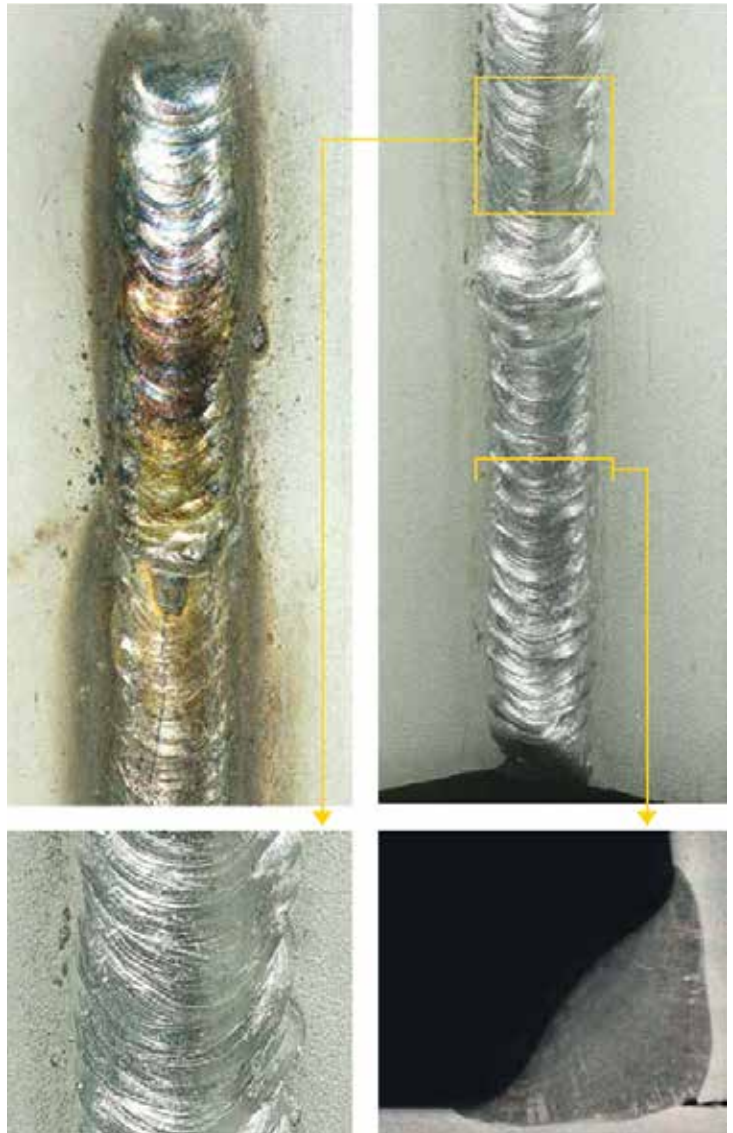

Figure 10. Euro Inox, Brussels (B)
There are different guides for welding in stainless steels. Figure 10 shows a part of "Reference Photo Guide for Stainless Steels Welds" from Euro Inox, Brussel (B).